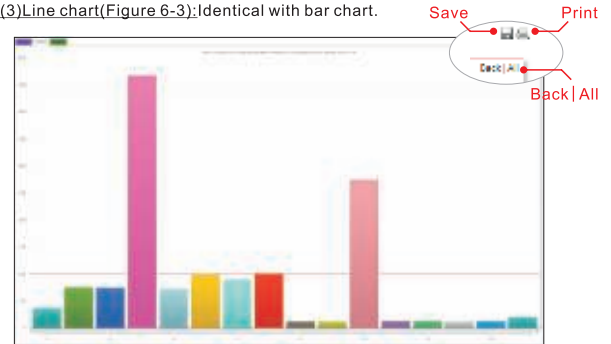
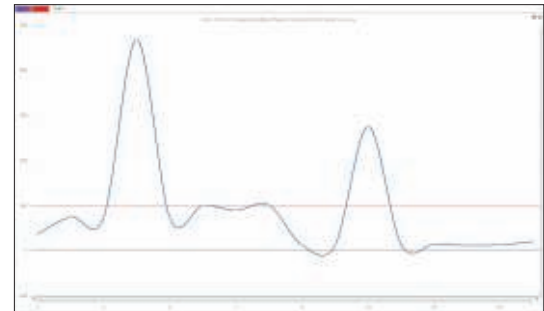

Figure 6-2
Figure 6-3
### (2)Bar chart(Figure 6-2):
- ① Axis X denotes the number of times;Axis Y denotes the value of measurement.
- ② Red line:High standard line,Black line:Low standard line,Find the Selection
- ③ Click the left key of the mouse and draw to zoom in the area selected while click the EXIT/FULL DISPLAY on the right upper corner to zoom out.
- ④ Click the icon on the right upper corner to save/print current charts.
- (3)Line chart(Figure 6-3):Identical with bar chart.